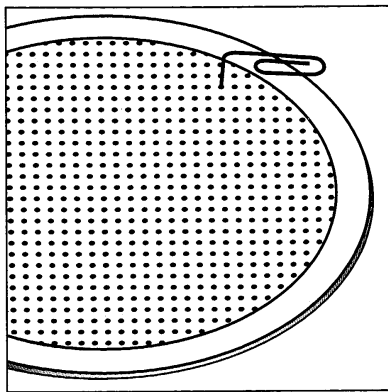

FIGURE 7
1. Separate the parts of the speaker. If the speaker is not yet installed, the grille can be removed simply by pushing the clamp screws forward to push the grille off the speaker from the inside. If the speaker is already in the wall, carefully hook the grille with a bent paper clip and pull it gently away from the frame [figure 7].